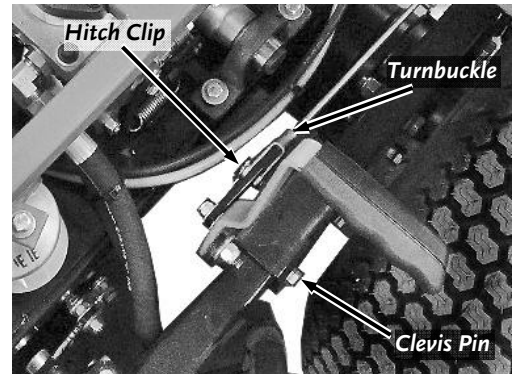
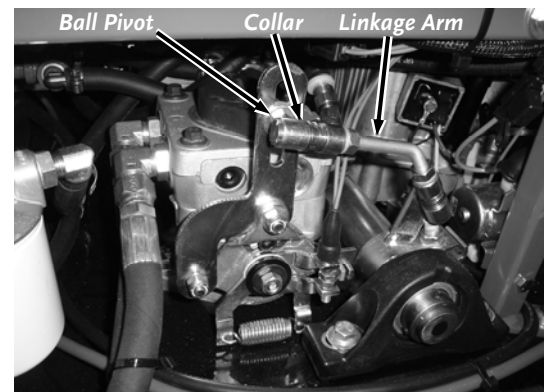
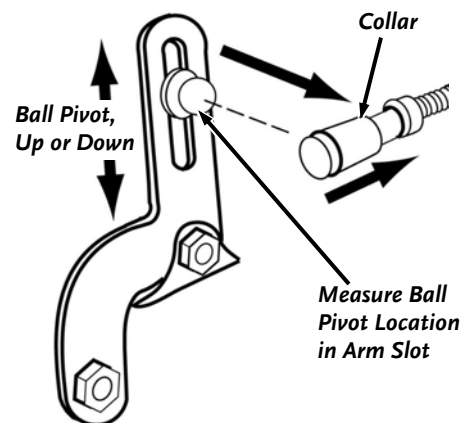

Figure 28
Figure 34
Figure 35
2. Remove the Hitch Clip and Clevis Pin from the Yoke on the Brake Arm (**Figure 28**).
1. Remove the Left Steering Linkage Assembly (**Figure 34**) by sliding the spring loaded Collar (Figure 28) away from the Joint and separating the Linkage from the Ball Pivot (**Figure 35**).